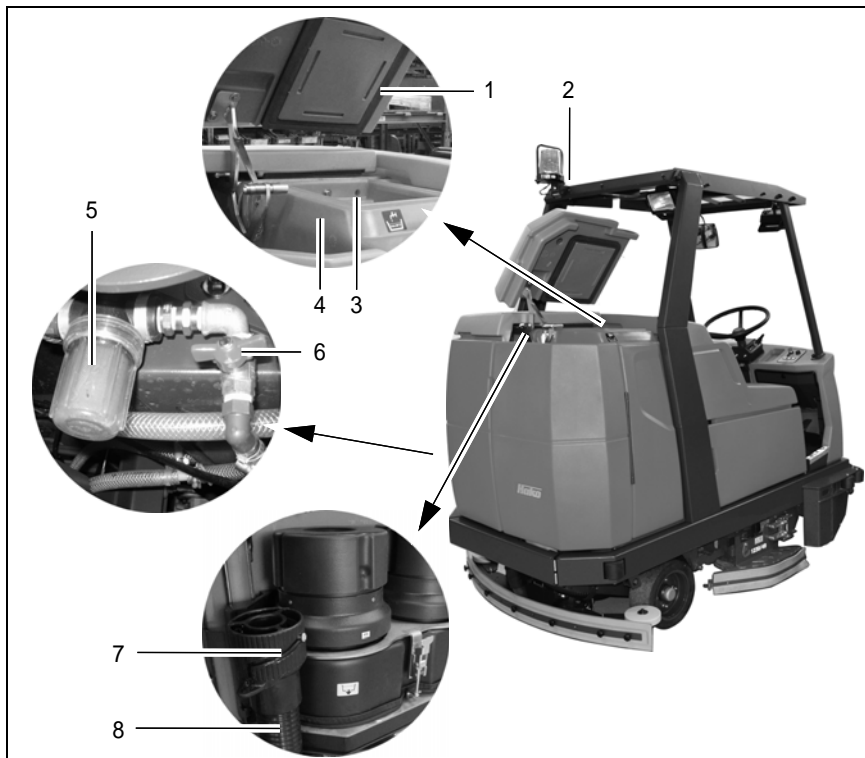

Fig. 27
Fill the solution tank (Fig. 27/4) with fresh water and cleaning agent before starting with the work, also refer to Section 3.1.4.
2. Open the tank cap (Fig. 27/2) and lock in place.
If the vehicle is to be left unused for a longer period, the solution tank (Fig. 27/4) should be emptied.
1. Park the vehicle so that the solution draining hose (Fig. 27/8) can be positioned over a drain in the floor.
3. Detach the solution draining hose (Fig. 27/8) and lower it slowly.
4. Unscrew the screw cap (Fig. 27/7). The quantity drained can be regulated by turning the screw cap and pivoting the cap open fully, if necessary.
- The screw cap (Fig. 27/7) at the end of the draining hose (Fig. 27/8) should be cleaned at regular intervals.
The solution feed is equipped with a filter (Fig. 27/5) which must be cleaned if dirt appears on the container. This is located on the left-hand side of the vehicle at the height of the brushes behind the side panel.
2. Close the ball cock (Fig. 27/6) to prevent solution being supplied from the tank.